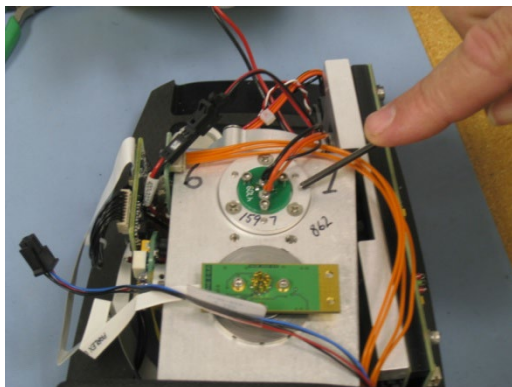

Figure 29. Source assembly in interferometer frame.
- 6 Identify the source assembly. The source is located on the top of the interferometer frame. It is secured by three Philips head screws (see Figure 29). Using the appropriate Philips head screwdriver, remove all three screws.